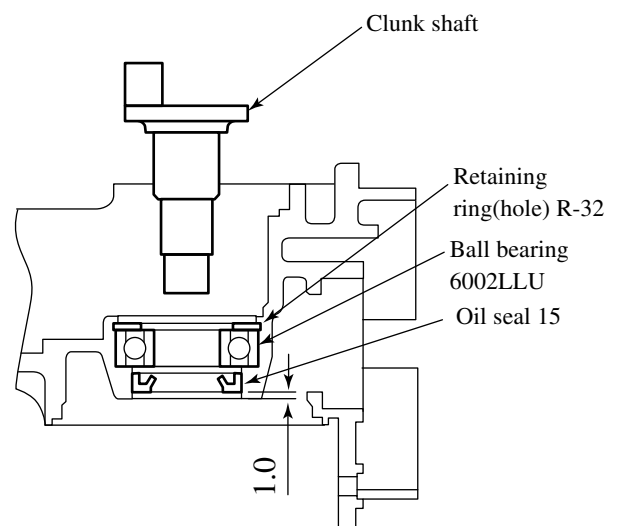

Fig. 21
1) Attaching Ball bearing 6002LLU to Clunk housing, install Retainer ring(hole) R- 32. ( See Fig. 21)
2) Install Oil seal 15 in Clunk housing using Jig 1R249. At that time put it approx. 1mm deeper than end surface. ( See Fig.21)